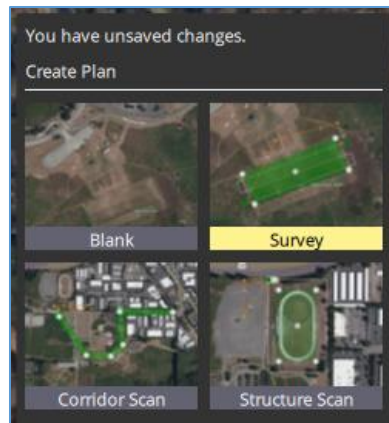

Figure 33: Flight Planning Options
3. Select "Survey" (Figure 33).